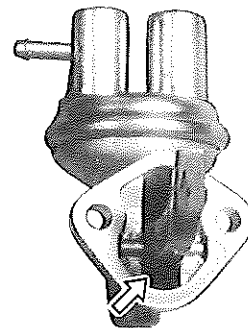

Fig. 6-9
- Check the fuel pump diaphragm for breakage. The diaphragm is in good condition if there is no evidence of gasoline leakage where the fuel pump is installed. (See Fig. 6-9)